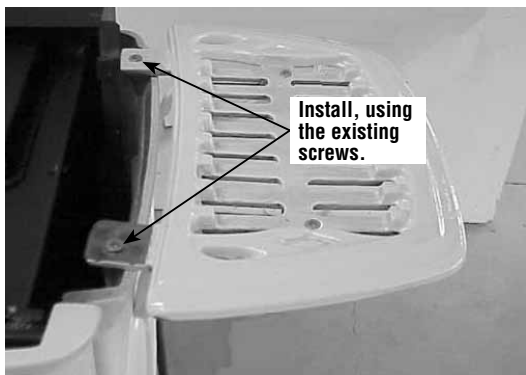

Figure 43 - Installing onto Stove Body
3. Using the existing screws on the stove body, install both warming shelf assemblies as shown in **Figure 43**. Tighten screws just enough to level shelves.